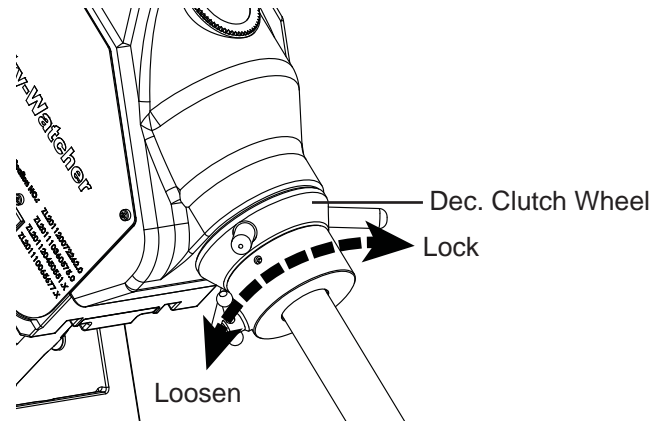

Fig. 2.1b
3. Release the Dec. clutch wheel to manually rotate the Dec. axis. (Fig. 2.1b)